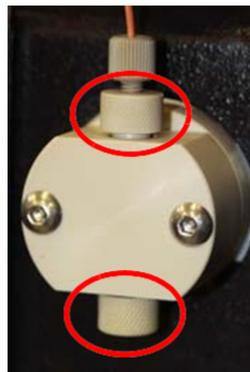

Figure 5-16 Check valve holder
1. Remove the inlet and outlet lines from the check valve holders (Figure 5-16), and then remove the check valve holders. Pliers may be needed to remove the holders.